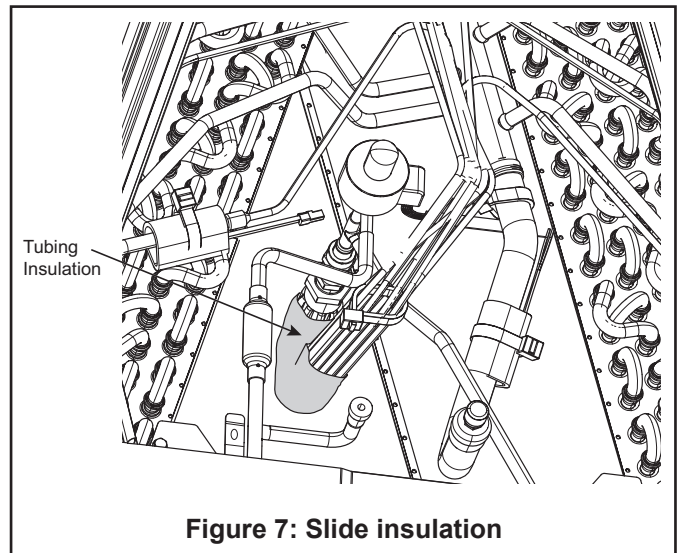

Figure 7: Slide insulation
2. Remove evaporator temp (ET), gas temp (GT), and saturation temp (ST, if equipped) temperature sensors by carefully unclipping from coil assembly. If temperature sensors are not the self-insulating type, discard temperature sensor insulation. New insulation is provided with replacement coil.
3. If equipped, slide the distributor tubing insulation as far back on the distributor lines as possible so that the mechanical fitting is visible. See Figure 7.